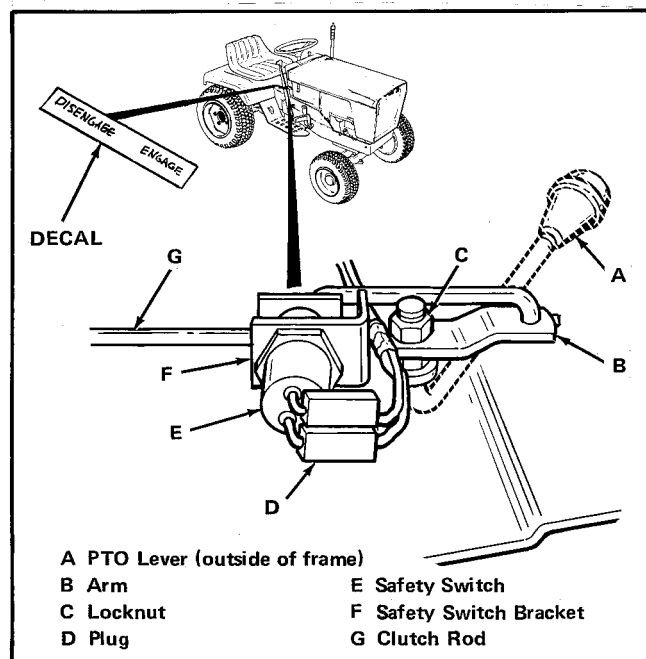

Figure 23. Install Safety Switch and PTO Handle
13. Locate safety switch bracket (item F, figure 23). The bracket can be seen from underneath tractor on inside of right-hand frame.
14. Remove one of the nuts from the safety switch (item E, figure 23) provided. Insert safety switch upward (button end first) through bracket as shown. Reinstall nut loosely to hold switch in place.
17. Install rear end of clutch rod first. Position rod so metal plate is over safety switch button as shown in figure 23. Then slip the arm (item B) onto bend in clutch rod as shown.
23. Install PTO clutch decal on the tractor frame at the clutch lever (see figure 23).